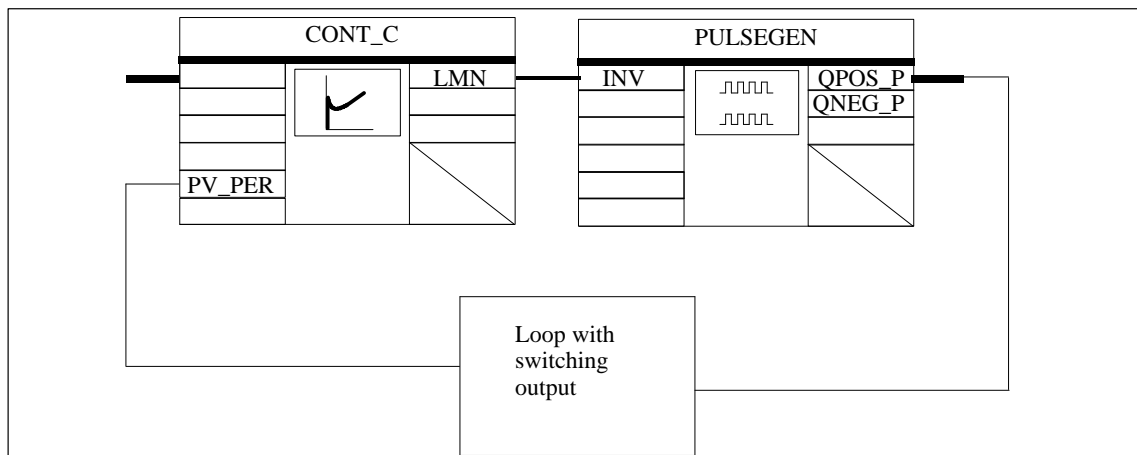

Figure 3-10 Control Loop
**Control Loop** Using the continuous controller CONT\_C and the pulse generator PULSEGEN, you can implement a fixed setpoint controller with a switching output for proportional actuators. Figure 3-10 illustrates the basic signal sequence in the control loop.